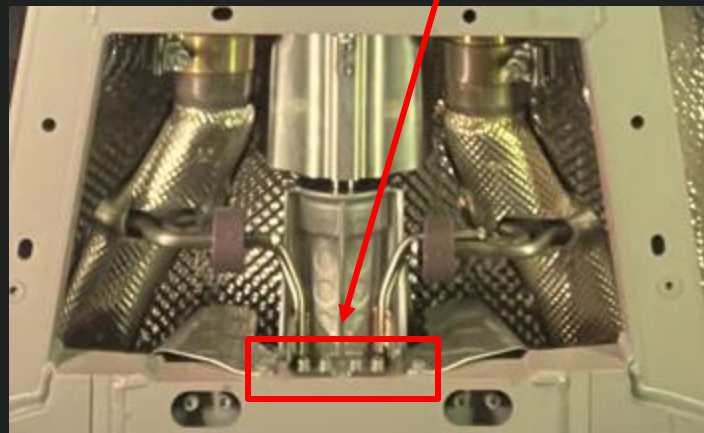

Figure 17
11. Remove the Rear Section Hanger Bolts (Figure 17) and pull the rear section outwards.